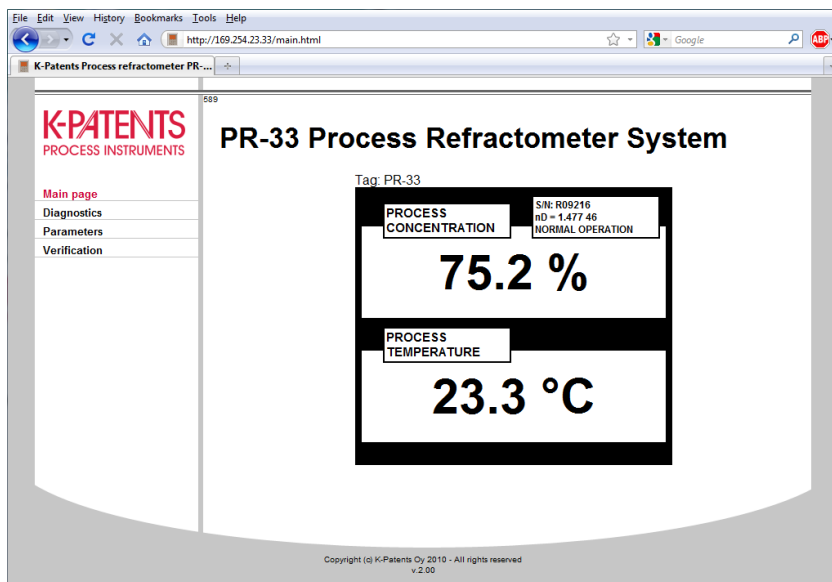

Figure 5.1 Main page
4. Wait until the homepage is loaded, this may take a few seconds. The page looks approximately like in Figure 5.1; the exact look of the page depends on your browser and screen settings so slight variation can be expected.
Once the instrument homepage is loaded, the most important information is visible on the main page (figure 5.1). This page shows the measurement values, serial number and the tag of the instrument.